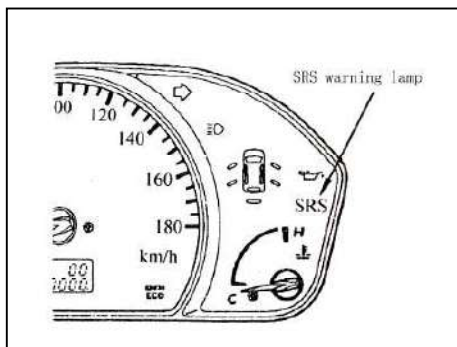

Fig 19-8
3.SRS WARNING LAMP CHECK(See fig 19-8)